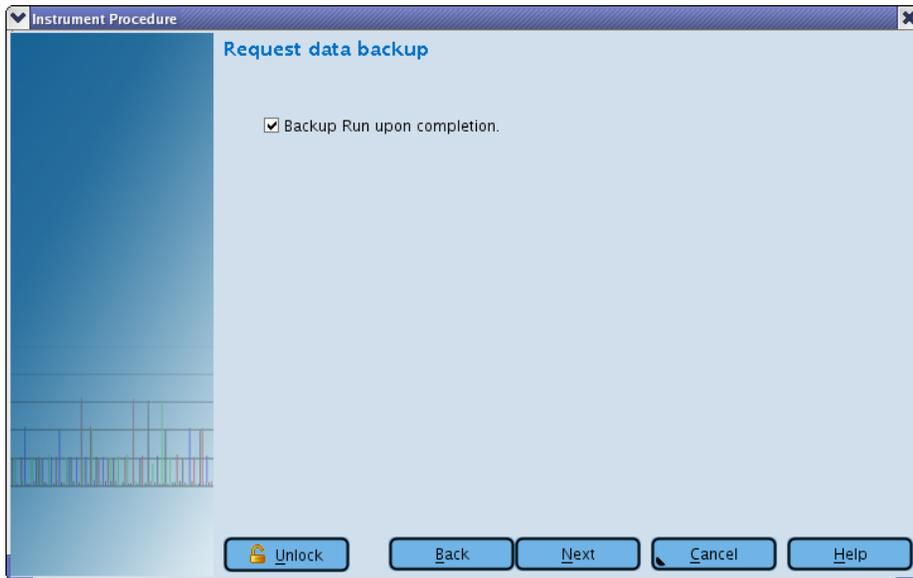

Figure 26: The Run Wizard's seventh window: Request data backup
- This opens the Run Wizard's seventh window: Request data backup (Figure 26).